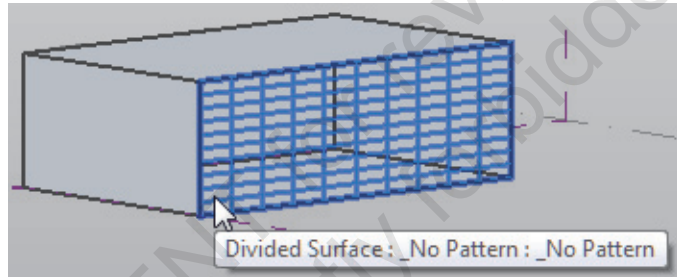

Figure 1–79
5. In the Type Selector, select a pattern from the patterns available, as shown in Figure 1–80.